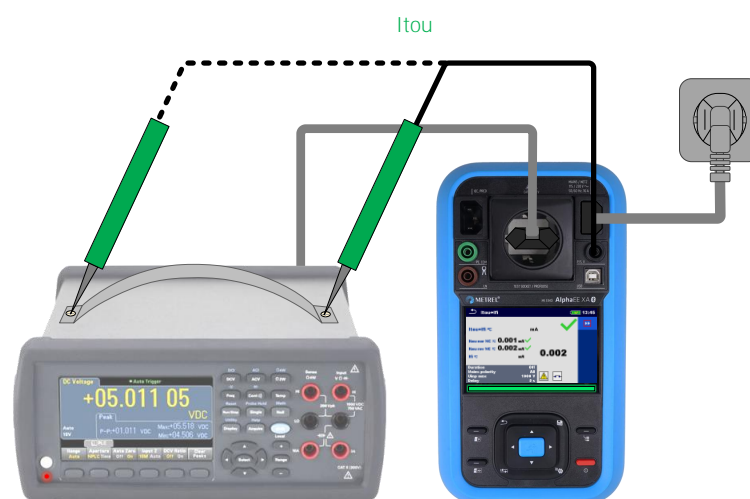

Figure 111_ Touch leakage current (Class II)
- Connect the DUT to the test instrument's test socket, see Figure 111_Touch leakage current (Class II) and Figure 112_Ifi_Alternative method Class II